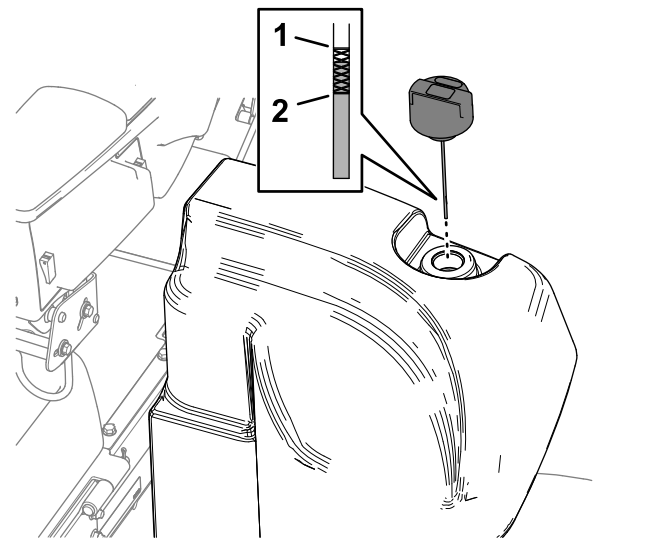

Figure 111
2. Clean the area around the filler neck and the cap of the hydraulic tank (Figure 111).